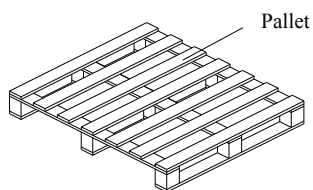

Fig 4
Step 1 Place a pallet specially, spec is:1130mm\*1100mm\*140mm,as fig4.